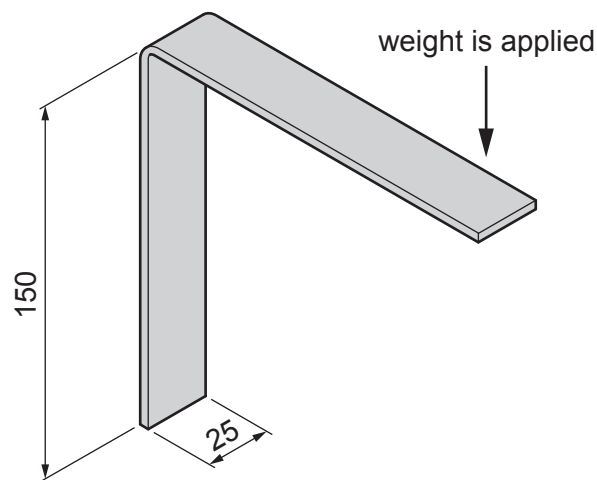

Fig. 6.1
- 6 Fig. 6.1 shows an incomplete design for a bracket made from 3 mm thick mild steel strip that will be fixed to a wall.